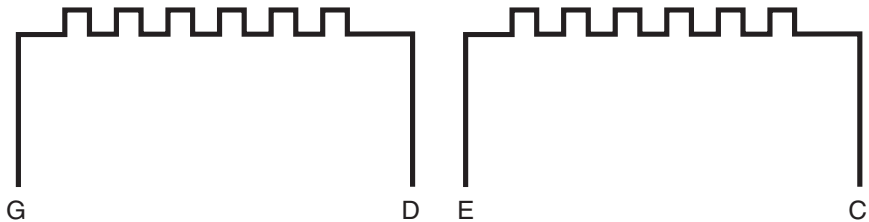

Figure 1 Old heater configuration
- b) The **OLD** heater assembly configuration (Figure 1) uses **G** as one leg of the High heater.
4. If you have the **OLD** heater assembly configuration (Figure 1), connect the D and G wires together into the terminal slot labeled D. Connect the rest of the wires as labeled. There is no direct ground connection through the heater wires. Instead the assembly will be grounded through the flow chute assembly.